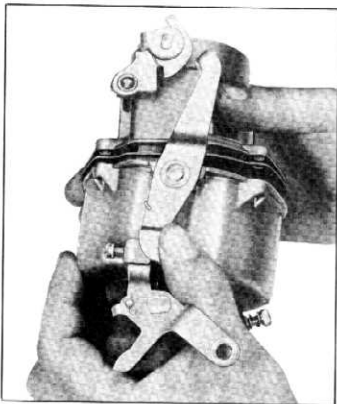

Fig. 96—Assemble Cover to Bowl
- Rotate throttle kick lever clockwise against tension of spring to a vertical position and carefully place cover assembly on bowl (fig. 96).